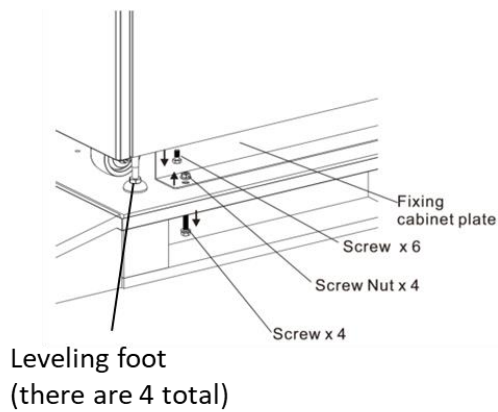

Figure 2-4
- Remove 2 fixing cabinet plates and loosen leveling feet by rotating them counterclockwise. Then, move the cabinet from the pallet. Refer to Figure 2-4.